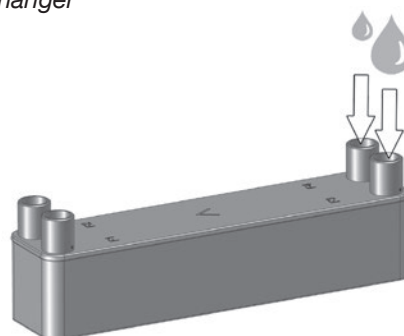

Fig. 5.8: Fill the heat exchanger up with anti-liming agent
9. Fill both sides of the heat exchanger up with anti-liming agent (Fig. 5.8).